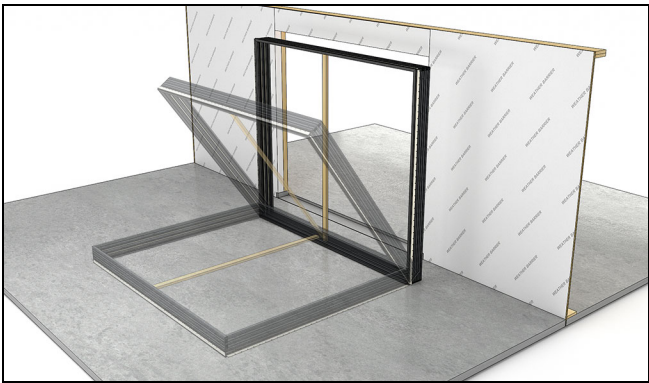

Figure 51
2. Stand the frame upright next to the rough opening and slide into the opening. See Figure 51.